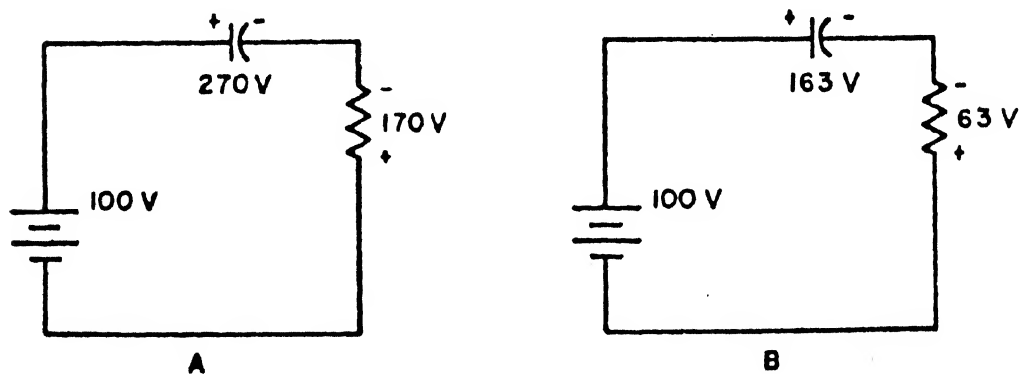

Figure 6
5. The switch is now thrown to position 2 in zero time. Since the capacitor cannot change its charge in zero time, we must carry over E_C with its proper polarity. However, the current in the circuit and the voltage across the resistor can change in zero time. We start back with step 1 in the procedure and work through step 4, since the conditions are now changed. Figure 6 shows the circuit in position 2.